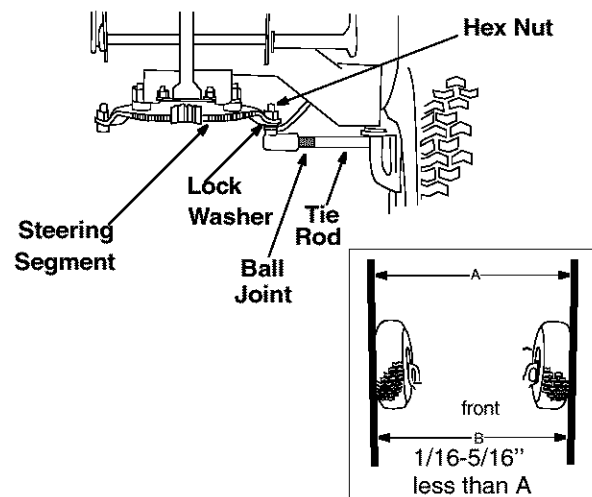

Figure 14
1. Remove the 3/8" hex nut and lock washer which hold the ball joint to the steering segment. See Figure 14.
2. Adjust the ball joint in or out until the wheels toe-in approximately 1/16-5/16" (Dimension "B" should be approximately 1/16-5/16" less than dimension "A"). See Figure 14.